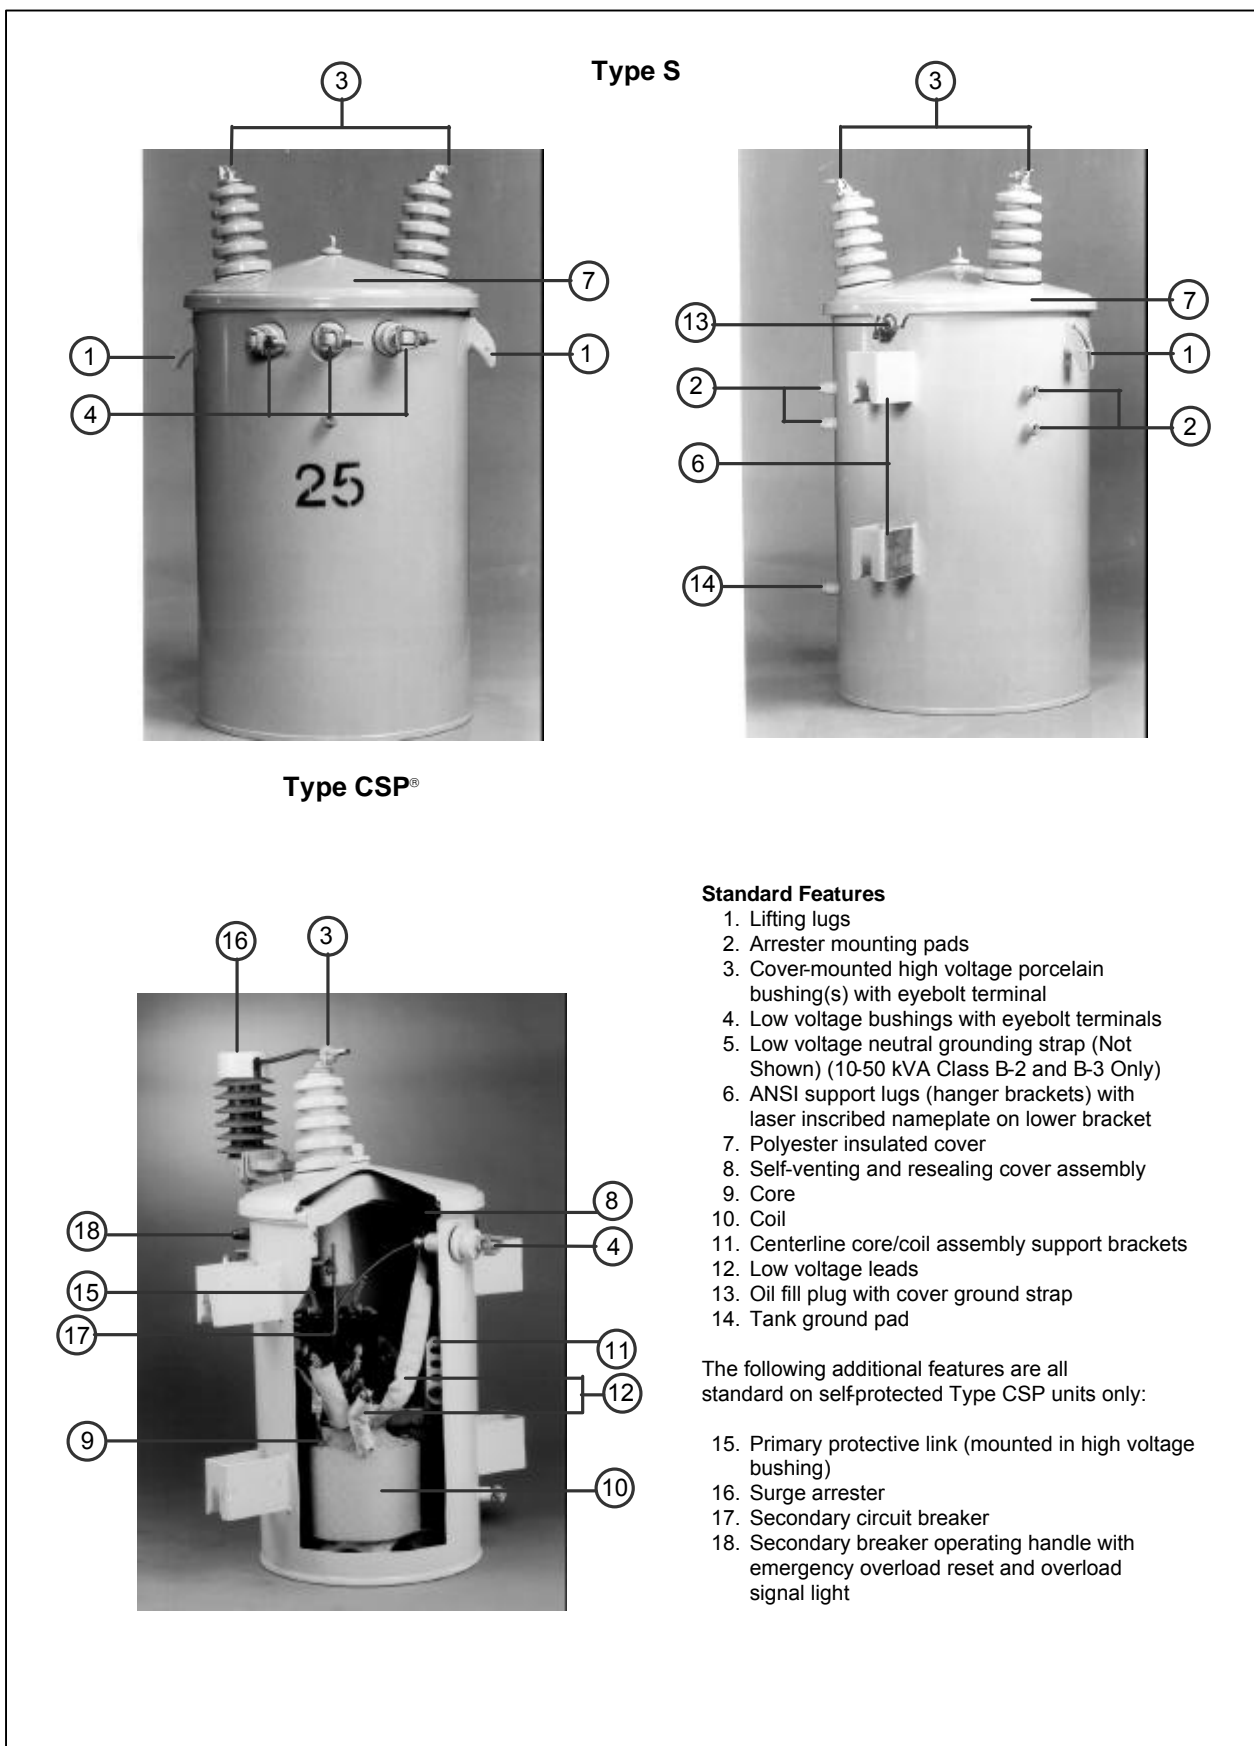

Fig. 1 Single Phase Overhead Distribution Transformers
1. Surge Arresters (See Fig. 1, also Section I, page 12)